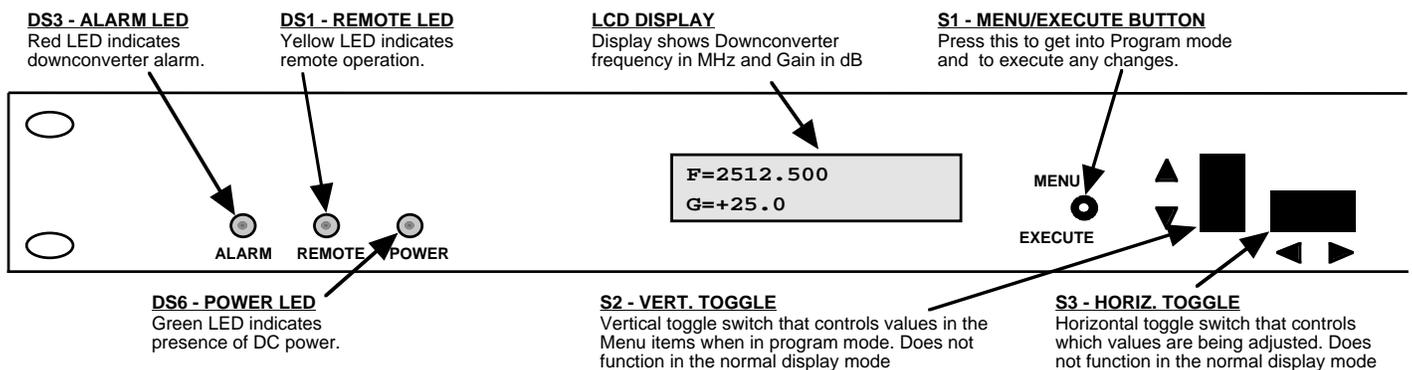

FIGURE 2.3 Front Panel Controls and Indicators
2.3 Front Panel Controls and Indicators - Figure 2.3 shows the controls and indicators on the front panel.
5. Be sure DS6 (green, DC Power) is on and DS3 (red, Alarm) is off (Figure 2.3).
Alarm indications appear on the LEDs (see figure 2.3).